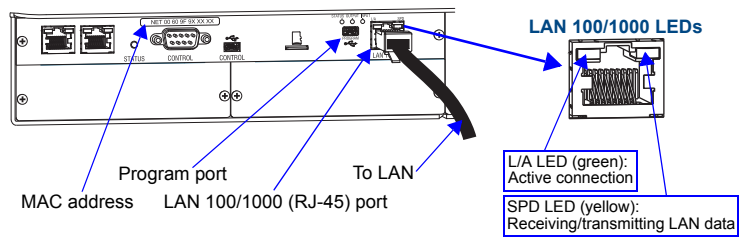

FIG. 5 LAN 100/1000 (RJ-45) port and Indicator LEDs
4. Check the indicator LEDs on the LAN 100/1000 port (FIG. 5 right).